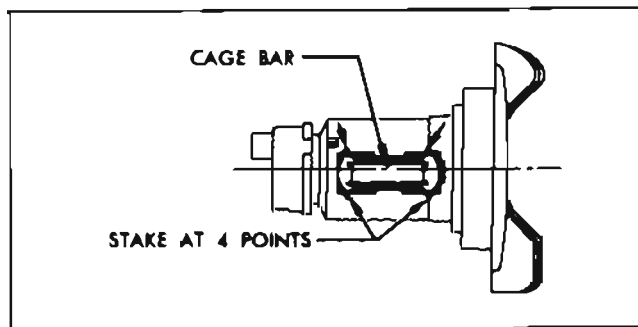

Figure 10-80—Cage Bar Staked in Place
3. Stake cage bar in place as shown in figure 10-80. *Staking must not distort cage.* Reinstall lock cylinder and check operation with key. If operation is satisfactory, plug the drilled hole with a small pin No. 00 x  $\frac{1}{8}$ " (Parker Kalon type "U").